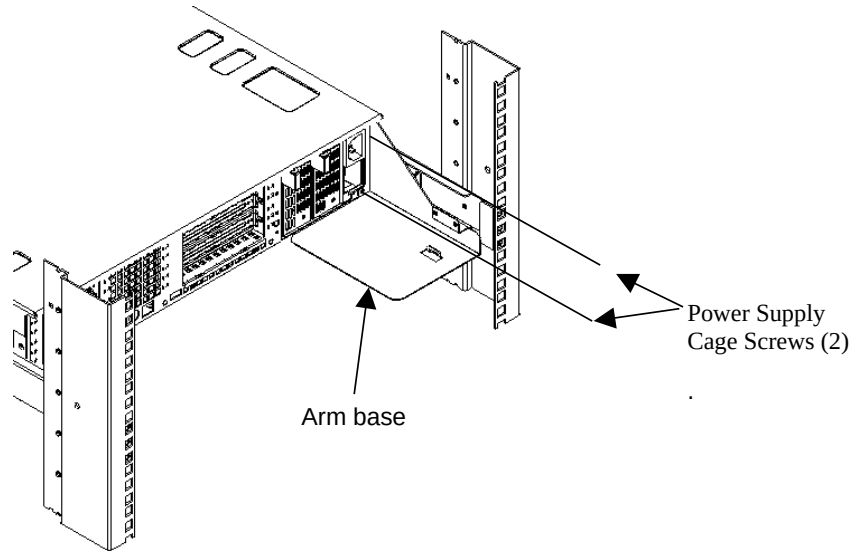

Figure 2-26. Attaching the Arm Base
1. Attach the Arm Base to the rear of the power supply cage using the two screws that secure the power supply cage to the chassis. See Figure 2-26.